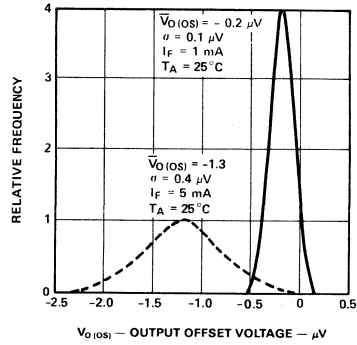

Figure 7. Output Offset Voltage Distribution.
3. $V_{\alpha(OB)}$ is a function of $I_{T(OB)}$ and is defined between pins 8 and 5 with pin 5 as reference. $V_{\alpha(OB)}$ must be measured in a stable ambient. See Figure 7 for variation of $V_{\alpha(OB)}$ around the typical value.